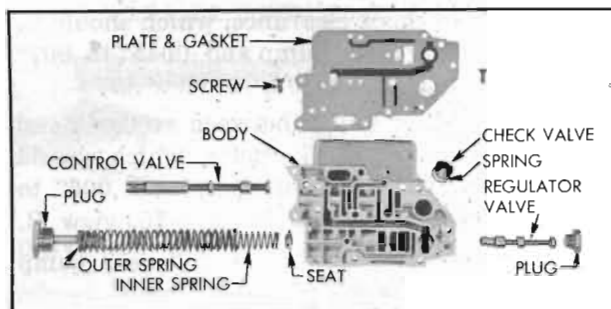

Figure 5-72—Valve Body Disassembled
4. Remove the large pressure regulator valve plug from valve body, using care because of the heavy spring pressure behind the plug. Remove the two springs and spring seat. See figure 5-72.
1. Place front pump delivery check valve spring in body with large end down and place check valve on spring with ridged side up. See Figure 5-72.